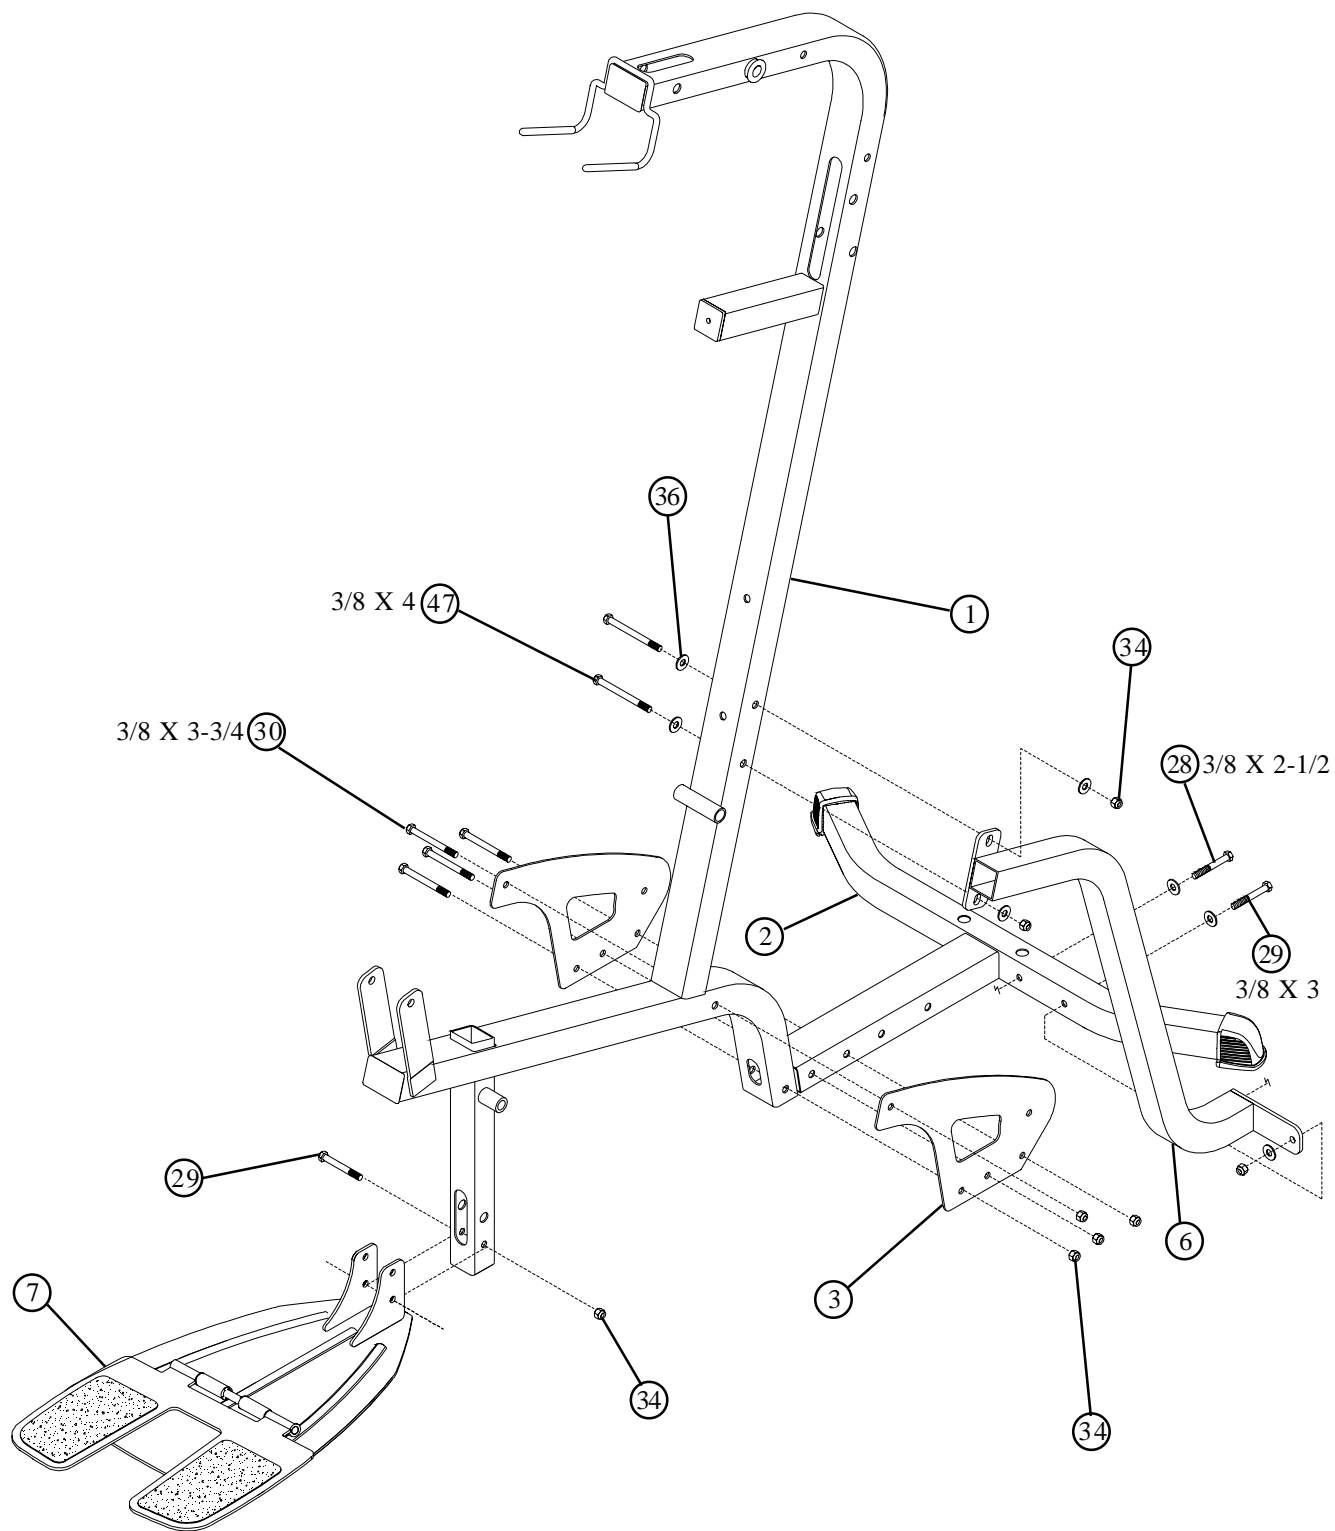

FIGURE 1
- **LOOSELY** assemble two BASE PLATES (3) to the FRAME (1) and BASE (2) using four 3/8 X 3-3/4" BOLTS (30) and four 3/8" LOCK NUTS (34). See FIGURE 1.
- **LOOSELY** assemble the FOOTPLATE (7) to the lower holes in the FRAME (1) using one 3/8 x 3" BOLT (29) and one 3/8 LOCKNUT (34)
- **LOOSELY** assemble the **TOP** of FRAME BRACE (6) to the FRAME (1) using two 3/8 x 4" BOLT (47), two 3/8 WASHERS (36) and two 3/8 LOCKNUTS (34) Assemble **BOTTOM** of FRAME BRACE (6) to FRAME (2) using one 3/8 x 2-1/2" BOLT (28), one 3/8 x 3 (29), three 3/8 WASHERS (36) and one 3/8 LOCKNUT (34)